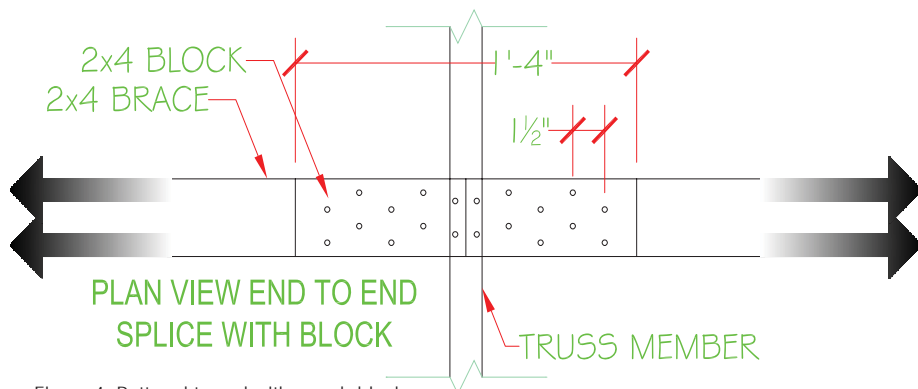

Figure 4. Butt end to end with a scab block.
- 4.) Butt end to end with a scab block: **(8 nails * 106#/nail) = 848#** (end nail contribution ignored) (See Figure 4.)